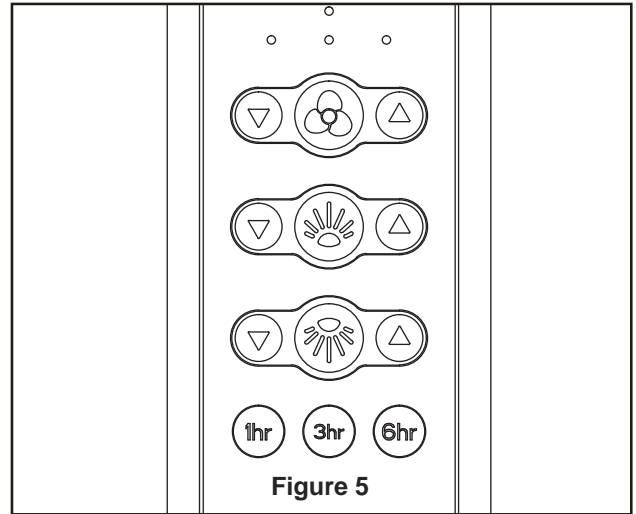

Figure 5
4. Once the connection has been made, slide the receiver into the hanger bracket, taking care not to pinch the wires. (Figure 5)
### 5. Remote functions: (Figure 5)